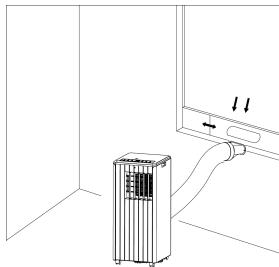
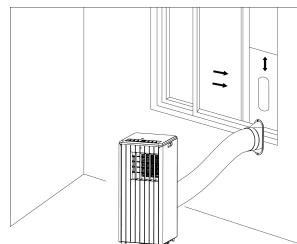

Figure 5
Figure 6
2) Elongate the exhaust pipe and snap the flat end of the exhaust pipe joints into the hole of the window sealing plate assembly (as shown in Fig.5 and Fig.6).